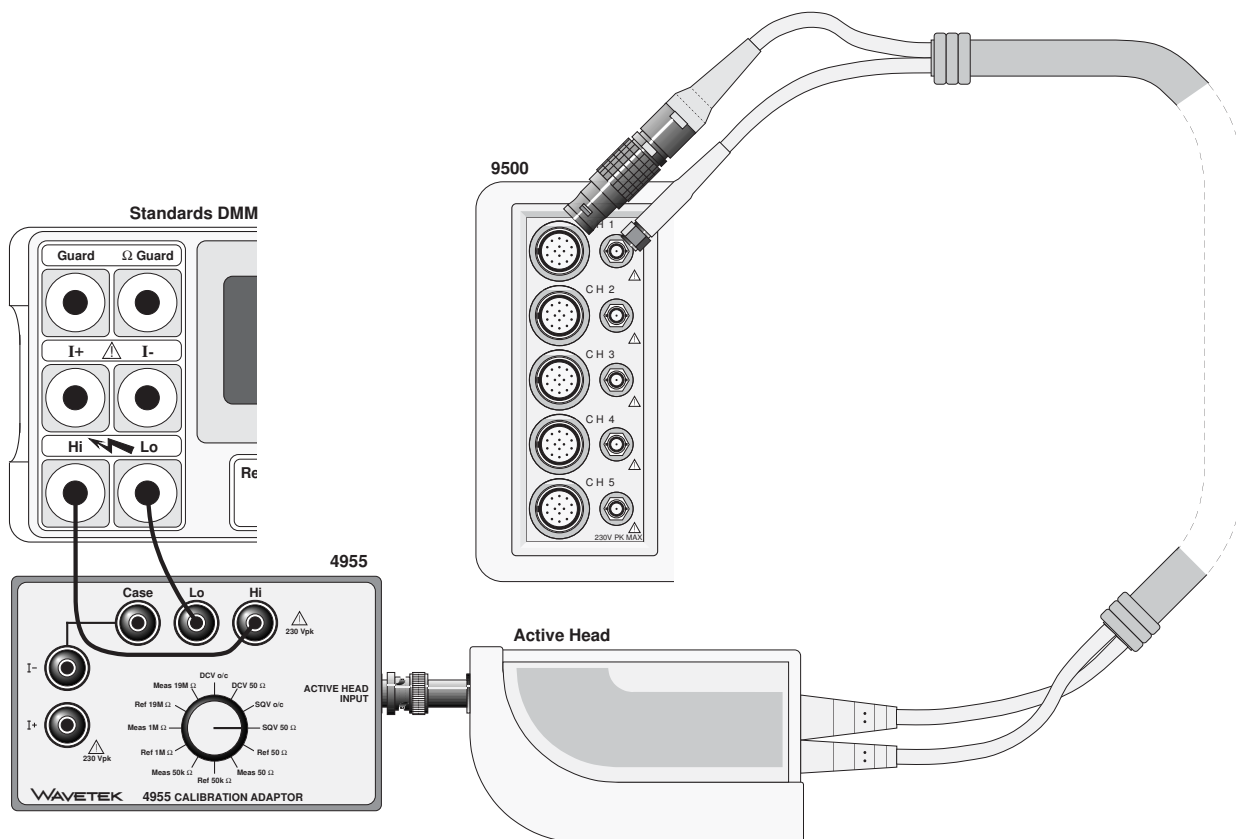

Fig 9.8.3.1 LF Sine Voltage Verification — Interconnections
Refer to *Fig 9.8.3.1* opposite.
- 1. Connections** Ensure that the 9500B is connected to the DMM as shown in *Fig. 9.8.3.1*, or via a similar BNC-4mm adaptor, and that both instruments are powered on and warmed up.